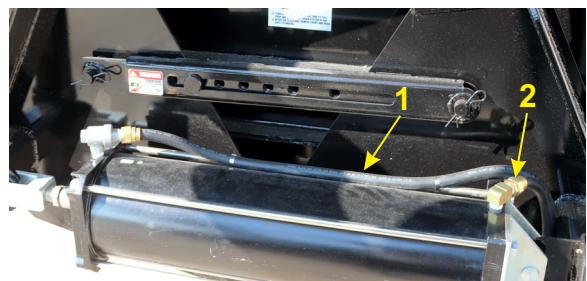

Figure 3-3 – Air Lines and Connectors
8. Inspect all airlines and connectors to make sure there are no signs of wear or damage, particularly the lines to the dump gate cylinders (1, 2, Figure 3-3). If any damage is noted, take the trailer out of service until repairs are completed.